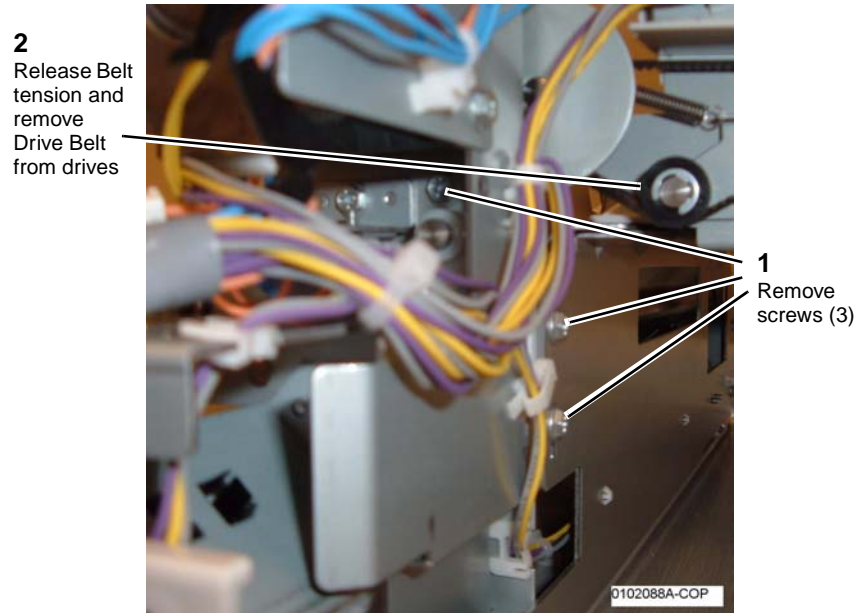

Figure 3 Removing screws and releasing Drive Belt from drives
7. Remove screws and release Drive Belt tension (Figure 3).